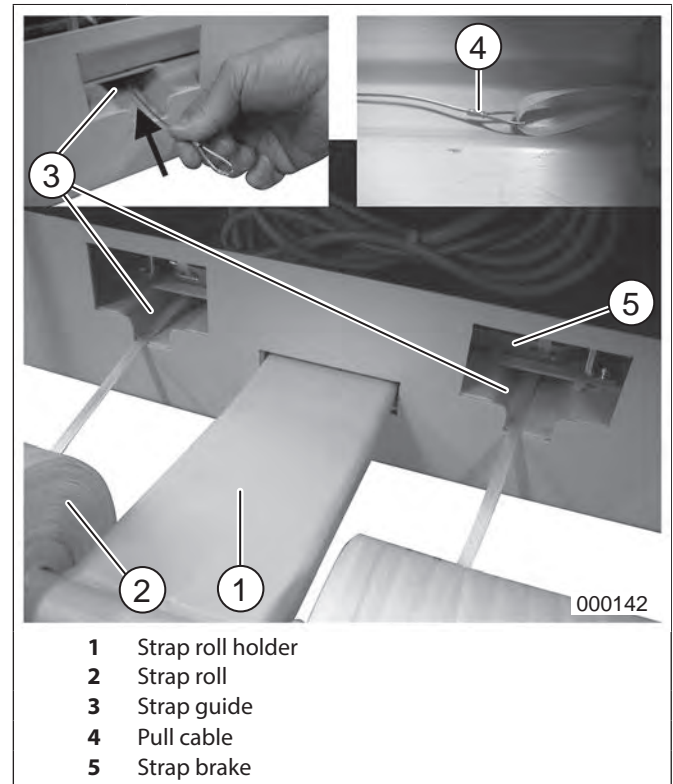

fig. 25 Replacing the strap rolls
4. Insert the strap rolls (fig. 25/2) in to the strap roll holder (fig. 25/1) as shown, with the strap ends pointing down.
5. Secure the strap end to the loop on the included pull cable and feed the other end of the pull cable (fig. 25/4) through the opening at the strap brake (fig. 25/5) and into the strap guide (fig. 25/3). The strap can now be pulled through the strap guide with the pull cable, until it is visible within the baling chamber.
7. Insert both straps as described under „Inserting straps for a new bale“, p. 25 and close the strap brake (fig. 25/5).